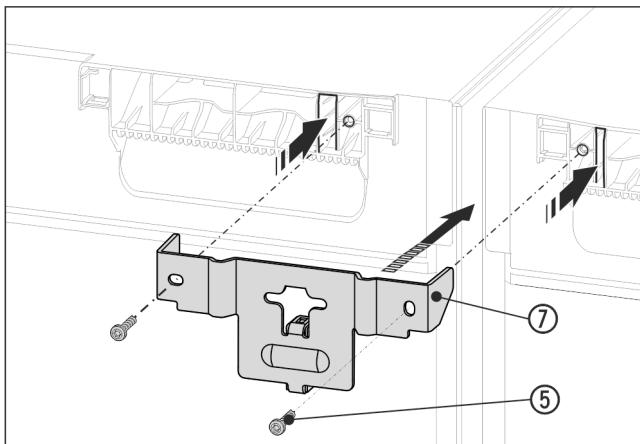

Fig. 14 Example illustration
- ▶ Slide the bracket Fig. 14 (7) with the spacer between the appliances and onto the appliance ceiling with the lugs. Tighten with 2 screws Fig. 14 (5).